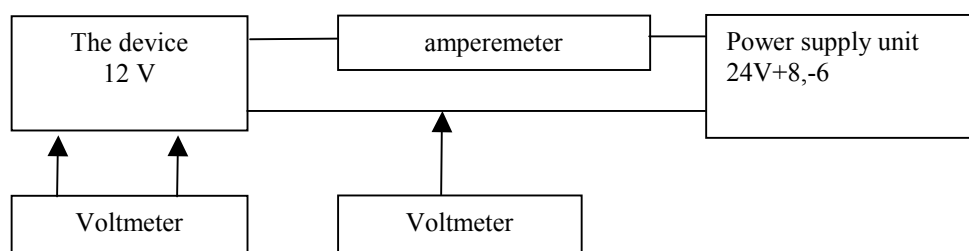

Fig 7.1
7.5. The supply voltage of the device is checked under the diagram in fig. 7.1.
7.6. Supply power of the device is checked under the diagram in fig. 7.1. Connect the device through the ammeter to power unit of the direct 24V current. Measure the supply voltage and current of the device. Power is calculated under the formula: